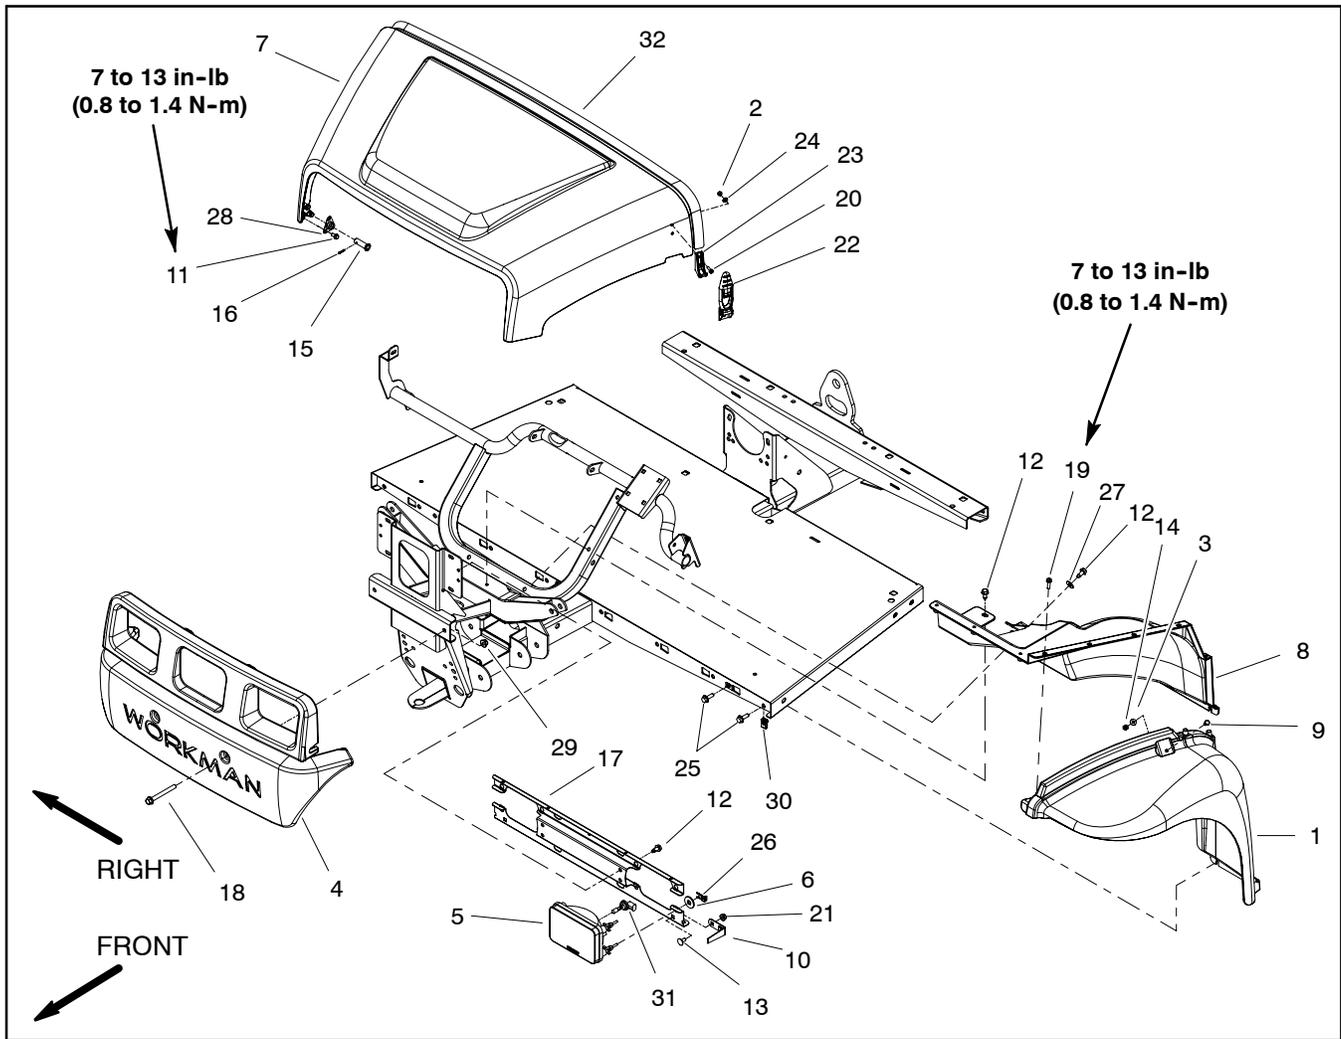

Figure 13
### Removal (Fig. 13)
3. Remove hood using Figure 13 as a guide.
### Installation (Fig. 13)
1. Install hood using Figure 13 as a guide. During assembly, use fastener torque specifications that are identified in Figure 13.